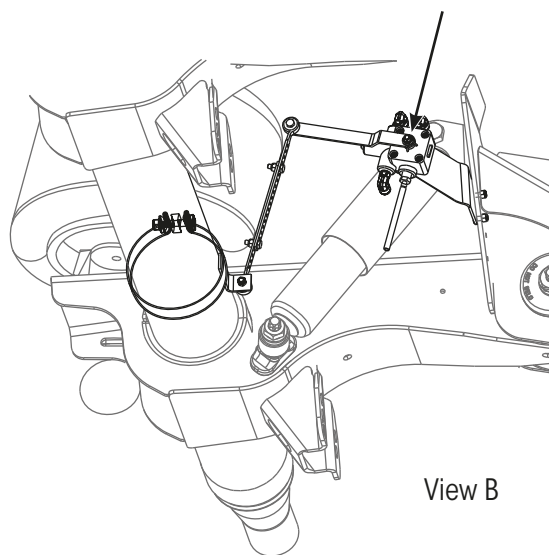

Figure 12: Axle Tube Mount
- Fixed to the axle tube (Refer to Figure 12)